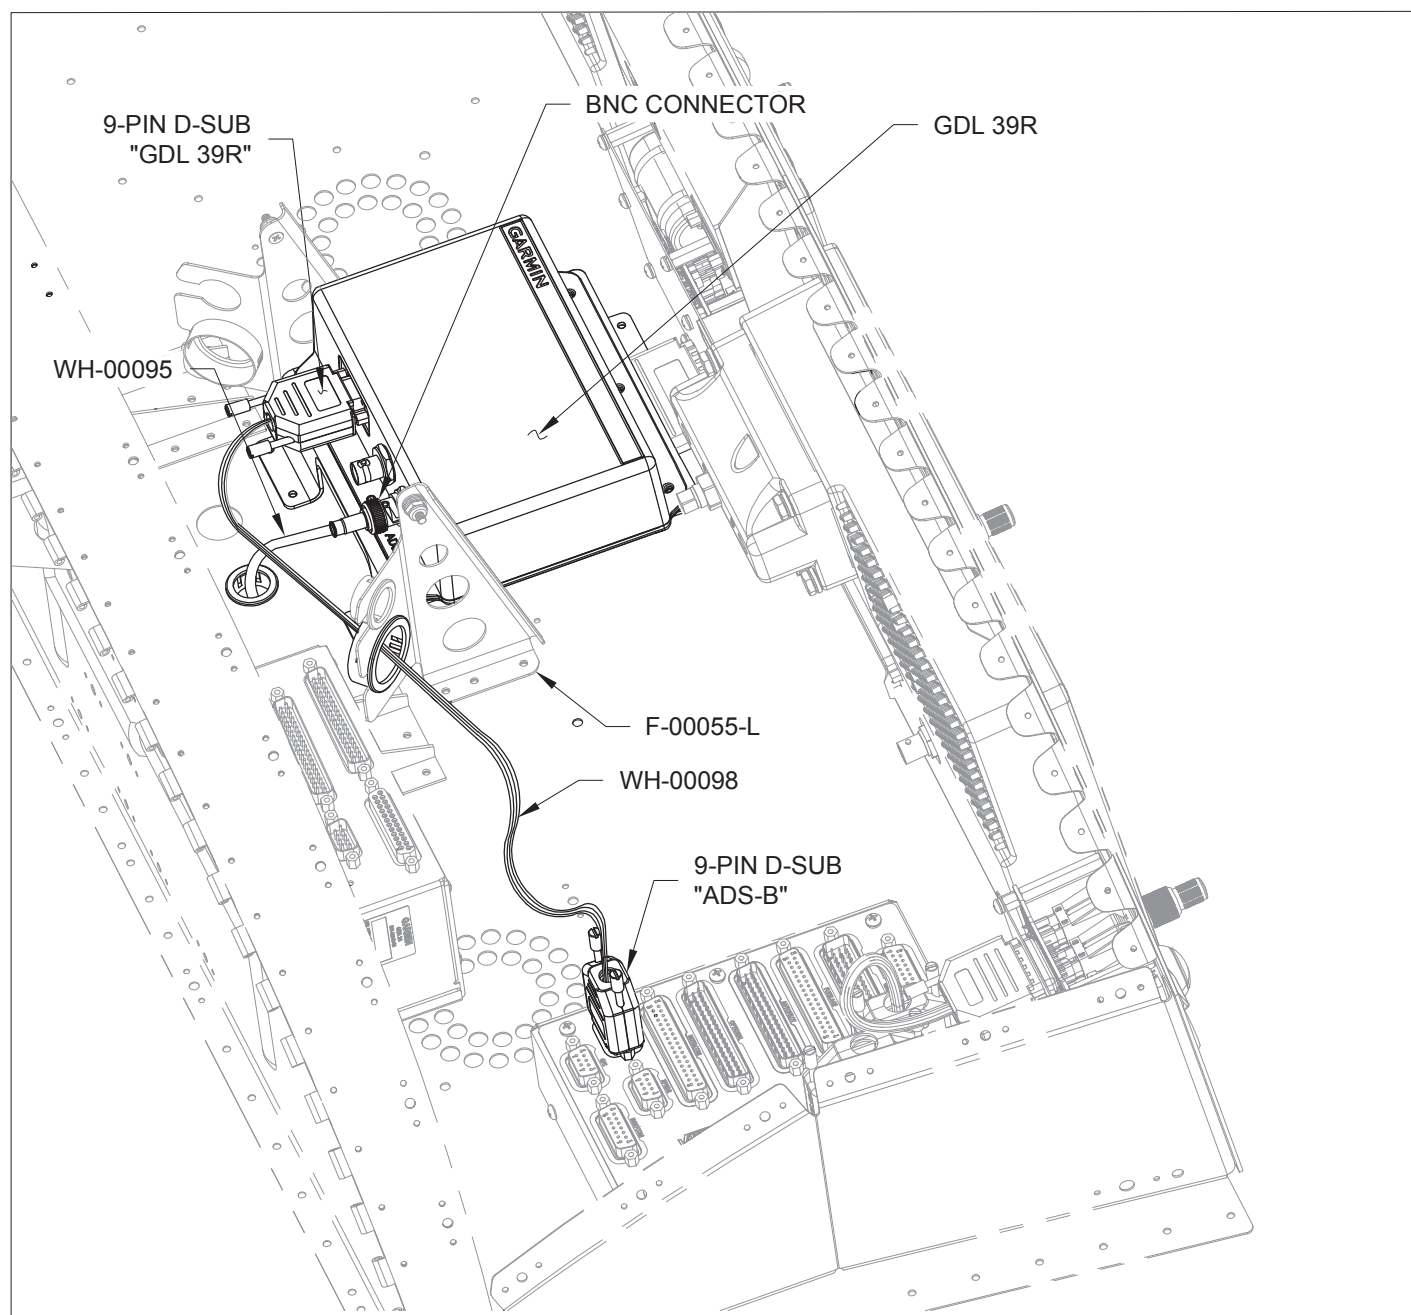

FIGURE 1: WIRING THE GDL 39R
Step 1: Position the F-00020 Antenna Doubler on the F-1282-L Bottom Left Skin as shown in Figure 1.